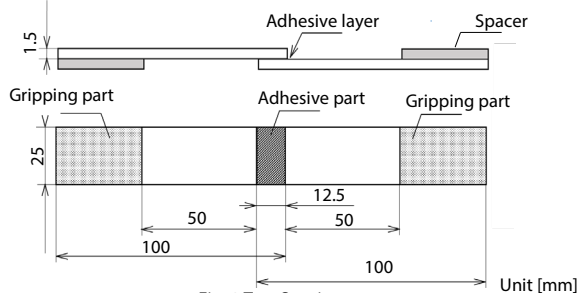

Fig. 1 Test Specimen
Four types of ThreeBond (TB) adhesives were used in this test. Fig. 1 shows the shape of the test specimens, Table 1 shows the test specimen information, and Table 2 shows the curing conditions for each adhesive. SUS304 was used as the adherend, and spacers were used for the grips to ensure that the load was applied correctly to the adhesive bonding surface. In addition, since TB1160 is a moisture-curing type which cures by reacting with ambient moisture, the thickness of the adhesive layer was set to 1 mm.